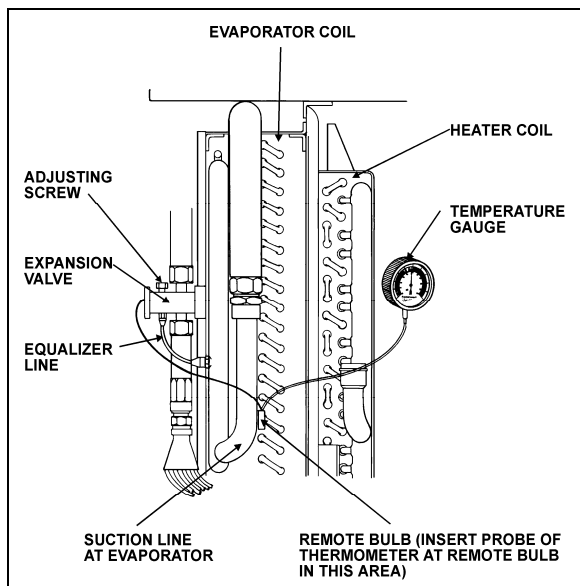

FIGURE 34: SUPERHEAT ADJUST. INSTALLATION 22046
The easiest method of adjusting the superheat is to unscrew completely the main evaporator expansion valve adjusting screw, and screw in 13 turns clockwise for 134A (figure 34). If this method does not provide an accurate superheat, the following procedure should be followed:
3. Install a remote reading thermometer to the evaporator outlet line near the existing remote bulb (figure 34).